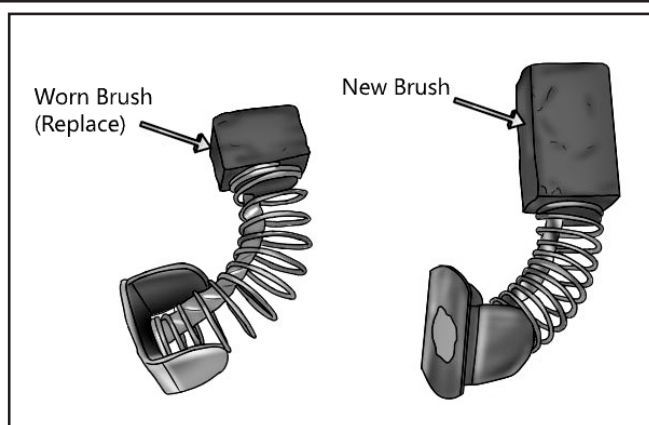

Figure 7
- Inspect the brushes to determine if they should be replaced. Use the diagram in Figure 7 as a general guide for determining the condition of each brush.